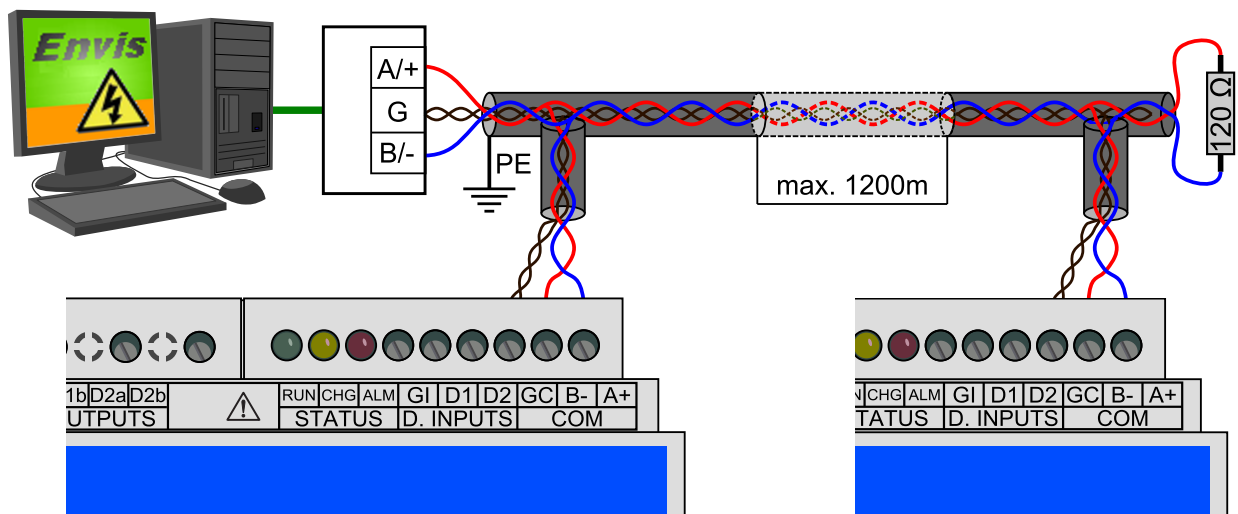

Figure 6: Typical wiring of the RS-485 communication line terminals in ARTIQ 144 or optional M-Bus (right).
**RS-485 Serial Line** serves usually as a remote communication for reading of actual data, archive downloading and device configuration. Serial RS-485 line uses terminals *A*, *B* with shielding at terminal *G* of *COM1* block (fig. 6). The final points of the communication line must be properly terminated with resistance.